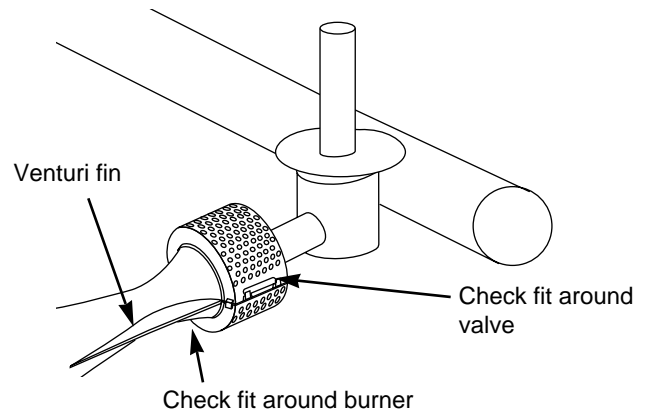

Figure 25
i) Reinstall the Spider Stopper Guards. Slightly rotate the Spider Stopper Guards so that the seams are in line with the Venturi fins. There should be no gaps in the seams or in the fit around the burners and valves. Figure 25.